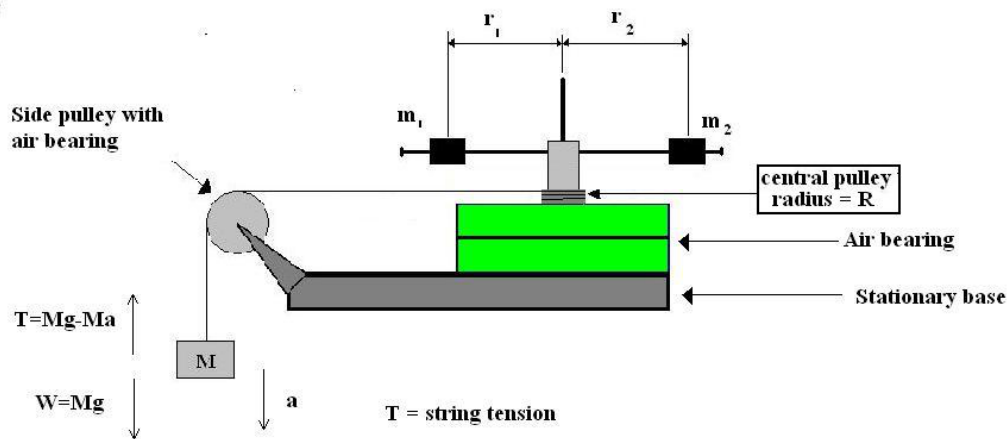
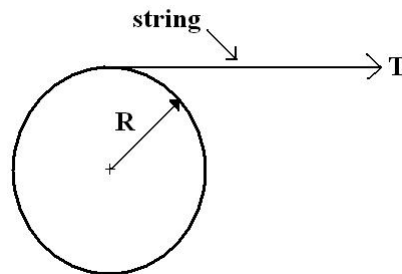
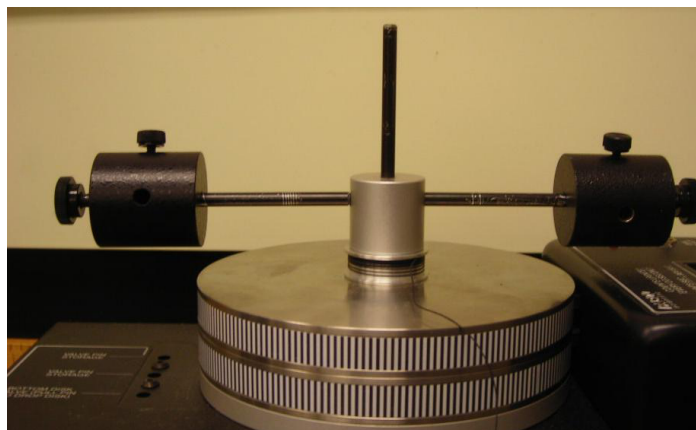

Figure 7.3: Moment of Inertia Apparatus
Figure 7.4: Central Pulley (axle)
Figure 7.5: View of main axle with 2 masses at same radius  $r$
In our case, the rigid body consists of two cylinders, which are placed on a metallic rod at varying radii from the axis of rotation. The cylinders and rod are supported by a rotating platform attached to a central pulley and nearly frictionless air bearings. A side view of the apparatus is shown in Figure 7.3 and a top view of the central pulley is shown in Figure 7.4.
To set up your rigid body, wrap the string around the central pulley (axle) and run it over the side pulley to a known weight as shown in Figure 7.3.
From Figure 7.3 and Newton's Second Law, the tension in the string is:
2. Place the cylinders on the horizontal rod such that the axes of the cylinders are along the horizontal rod (as shown in Figure 7.5). Make sure the thumbscrew on each cylinder is tightened. The center of mass of each cylinder must be the same distance ( $r$ ) from the axis of rotation (i.e.  $r_1 = r_2$  in Figure 7.3). Estimate the uncertainty in  $r$  (called  $\delta r$ ). This should include both the uncertainty in reading your ruler and the uncertainty in locating the cylinder's center of mass.